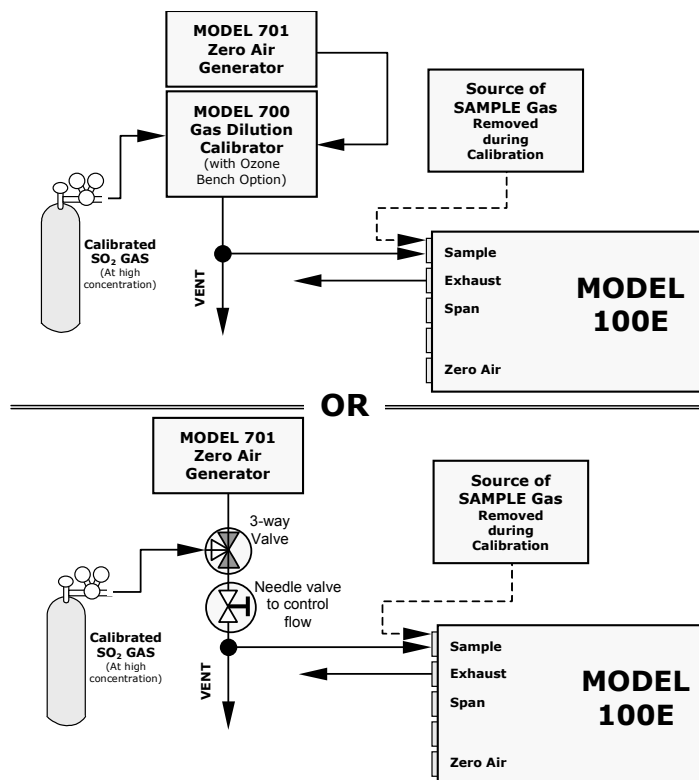

Figure 8-1: Setup for Manual Calibration without Z/S Valve or IZS Option (Step 1)
**STEP ONE:** Connect the sources of zero air and span gas as shown in Figure 8-1.
Zero air and span gas must be supplied to the analyzer through the sample gas inlet as depicted in Figure 8-1 of Section 8.2.